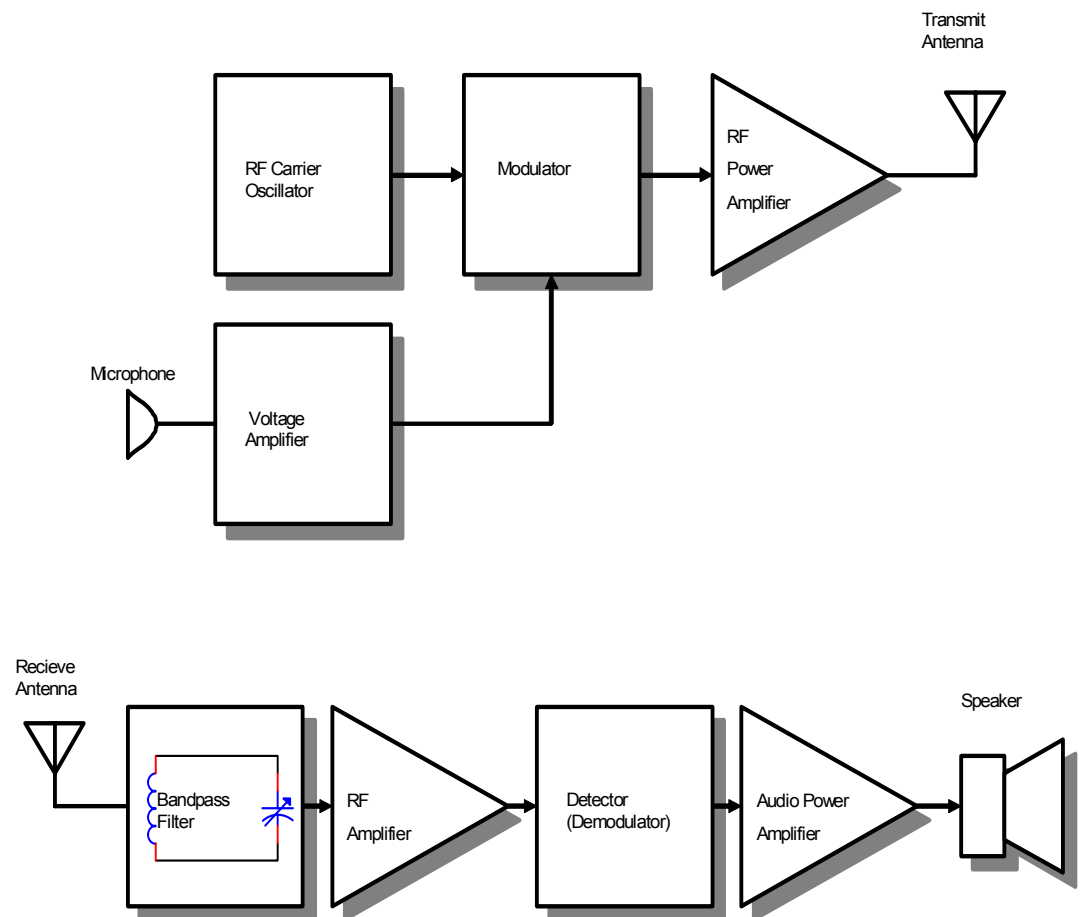

Figure 1-5: A Practical Radio System
An actual radio system looks very much like the diagram of Figure 1-5:
The receiver of Figure 1-5 reverses the steps taken in the transmitter. After the incoming signal is received from space by the antenna, it is fed into a bandpass filter. Recall that a bandpass filter rejects frequencies above and below its design frequency. Most receivers use an LC resonant circuit as the bandpass filter. This filter is tuned to the *carrier frequency* of the transmitting station. There are thousands of signals reaching the receiver's antenna at any given instant, yet the receiver must reproduce only one of them. That is a tall order! Because each incoming carrier signal has a different frequency, it is possible to separate them by using a frequency-selective circuit. In other words, we use a filter to do the job of "selecting" the appropriate station.
You might have noticed the variable capacitor in the filter of Figure 1-5. Yes, that's the receiver's tuning control. The tuning knob on a receiver is coupled to a variable capacitor, which is part of the bandpass filter. When the capacitance is changed, the resonant frequency of the filter changes. When a user is tuning in a radio station, he or she is actually adjusting the resonant frequency of a tank circuit!
There are several ways of attacking the problem. First, the block diagram of the unit must be understood. It is similar to the diagram of Figure 1-5. There are a couple of new stages. The *buffer amplifier* slightly amplifies the RF carrier from the oscillator. It can be seen that the RF power amplifier has two stages, the *driver* and *final* amplifiers. The final amplifier is simply the *last* or "final" amplifier before the antenna. Note how the RF driver and final amplifiers operate on a high-voltage, high-current power supply. (You'll likely see these stages mounted on a metal *heatsink*.)
5. List all the transducers shown in Figure 1-5. For each transducer, give the type of input and output energy.